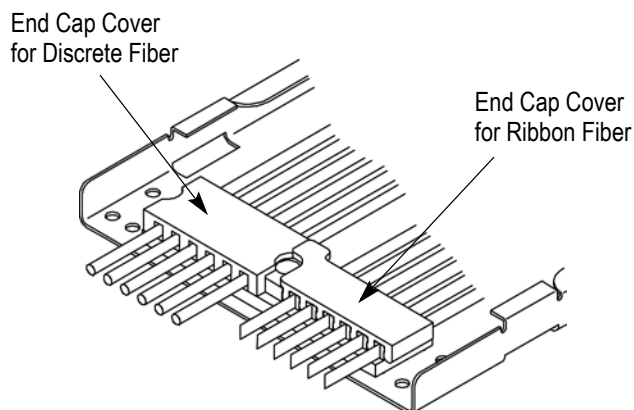

Figure 8
1. Install the appropriate end cap covers onto the end caps. Position the end of the cover (tab end if using cover for ribbon fiber) over the center of the end cap, then press and roll the cover over each fiber. See Figure 8.